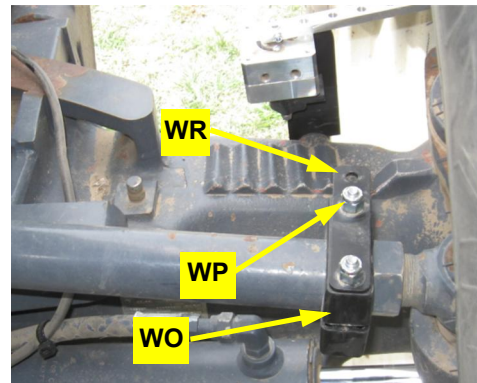

Figure 2c: Installed link rod bracket
- c. Using hardware **WP**, install clamp **WO** and link rod bracket **WR** on the tie rod. Set the clamp next to the tie rod ball joint locking nut with bracket **WR** on top and pointing forward (Figure 2c).